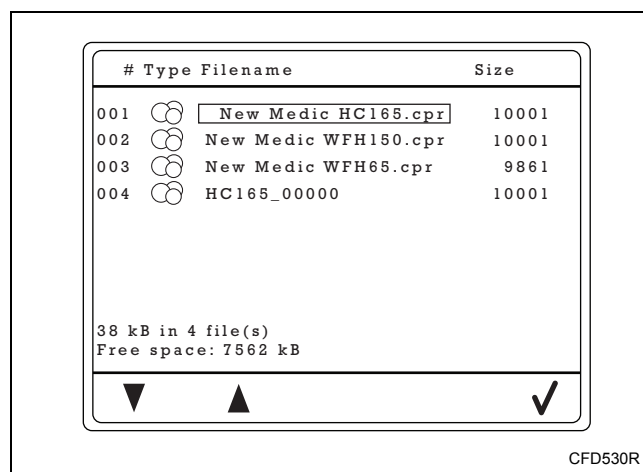

Figure 54
1. Use the keypads below the Navigation icons to select the price and time file to write to the machine. Refer to *Figure 54*.
2. Confirm by pressing the keypad below the Check icon. Refer to *Figure 54*.